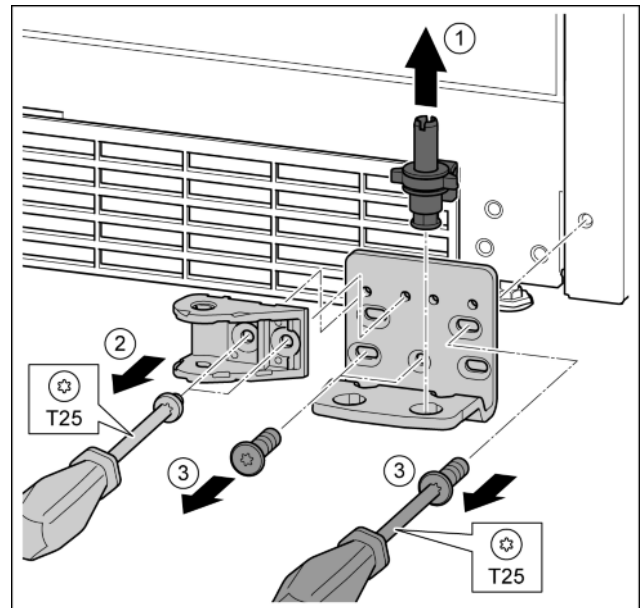

Fig. 29
- ▶ Lift the bearing bolts upwards and remove. Fig. 29 (1)
- ▶ Undo the screws with a T25 screwdriver and remove the mounting block. Fig. 29 (2)
- ▶ Remove the screws with the T25 screwdriver and remove the bearing bracket. Fig. 29 (3)